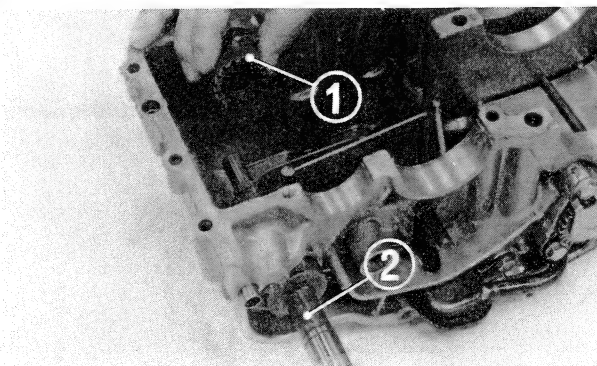

Fig. 14 (1) Kick starter ratchet
- Install the kick starter ratchet with the kick starter spindle placed in the position shown in Fig. 14.